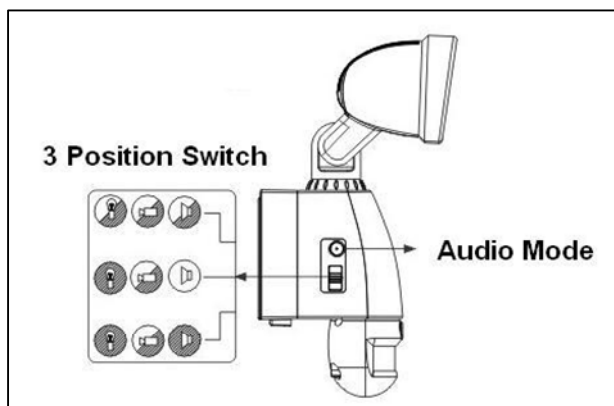

Fig. 3
3. Definition of side view parts (see fig. 3 & 4)